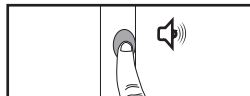

Figure 13.1; Press and Hold Programming Button
On the E-Wands you wish to group together, one by one, press and hold the PROGRAMMING BUTTON until you hear a SINGLE BEEP (1), then release [Fig. 13.1].